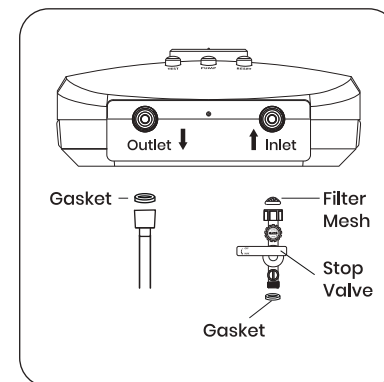

Fig. 2
1. Inlet and Outlet connection of the heater unit should not be reversed (**Fig. 2**).